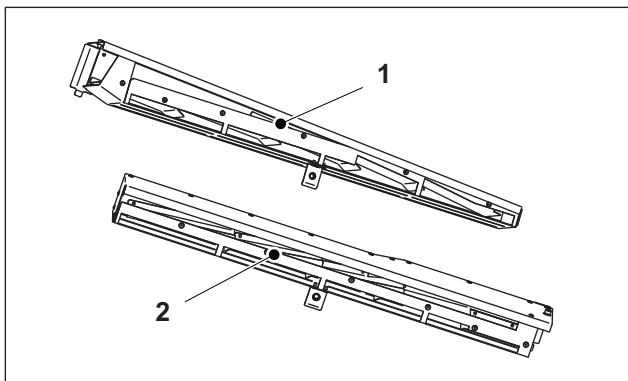

Fig. 68 Suction ducts
6. Carefully remove the powder dust from the two suction ducts (Fig. 68) using a brush or spatula.